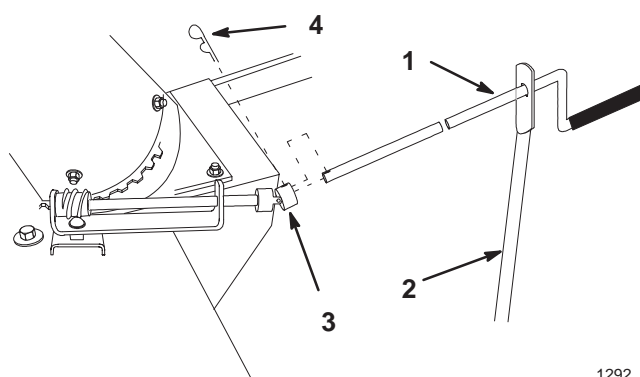

Figure 20
2. Remove hairpin cotter at U-joint and slide crank handle out of support (Fig. 20).